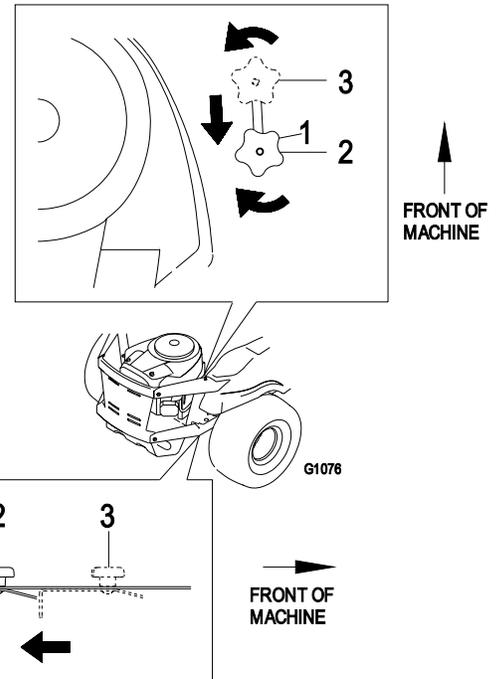

Figure 18
3. Locate the bypass release knobs on either side of the engine deck. (Figure 18)
4. Loosen the knob by turning counterclockwise. Then pull the release lever on the underside of machine (Figure 18) towards the back of the machine and retighten the knob to hold the release lever back in the released state. Repeat this on each side of the machine.
1. Loosen the bypass knob, push the release levers forward, and retighten the knob to engage the drive system (Figure 18).